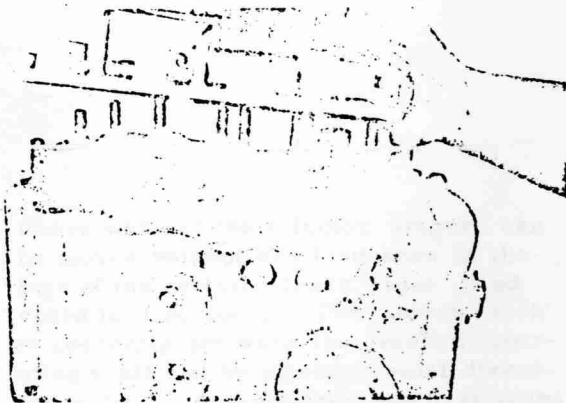

Fig. 49
2. The thickness of the shims (239), which are placed on the ball bearing (237) of the input shaft, must be determined in the same manner as described under H)1. Place the shims selected on the bearings.
3. Place rear cover (138) in position (Fig. 49) and secure it with nuts (139) and spring washers (107). Tighten nuts with a torque of 1.5 - 2 mkp (11 - 14 ft/lb).